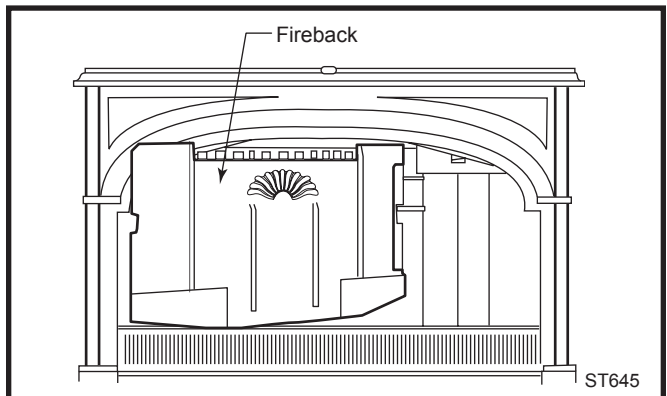

Fig. 50 Remove the lower fireback through the front door opening.
4. Swing the fireback forward and up to remove it from the stove. (Fig. 50)